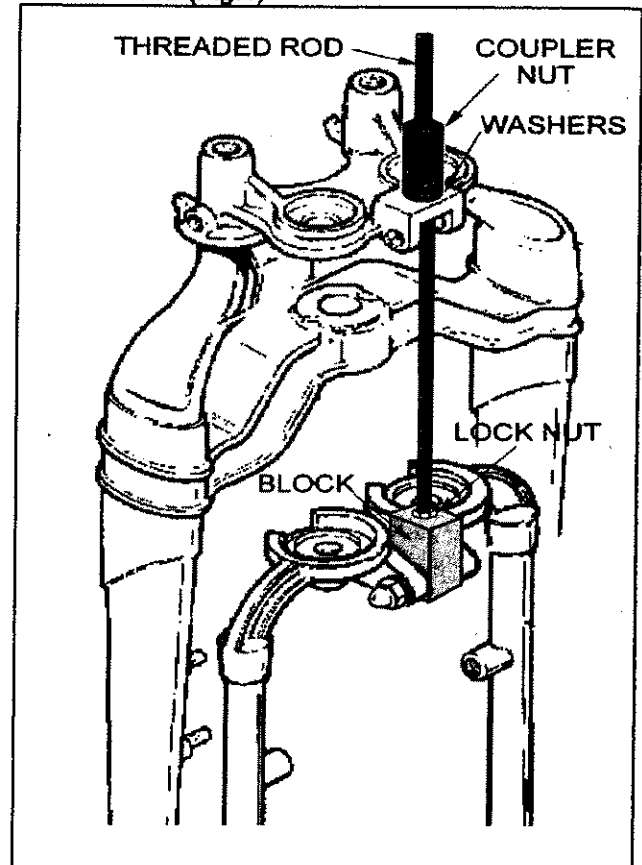

Fig. 1 White Brothers Springer Tool
5. Install the White Brothers Springer Tool (WB part # 28-116) by inserting the threaded rod up through the hole in the top shock mount as illustrated. Using the stock shock mounting bolt, secure the BLOCK in the bottom shock mount and tighten the bolt/nut. Put a light coating of grease on the threaded rod and then tighten the coupler nut until any free-play is removed from the tool. (Fig. 1)